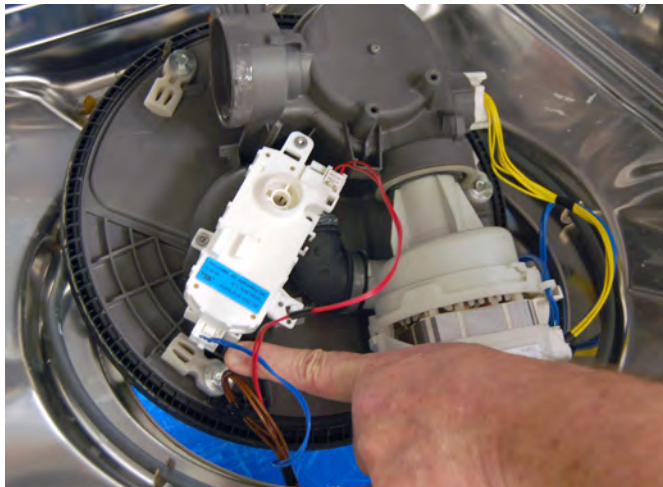

Figure 16
11. Unplug the diverter sensor harness, see figure 16.